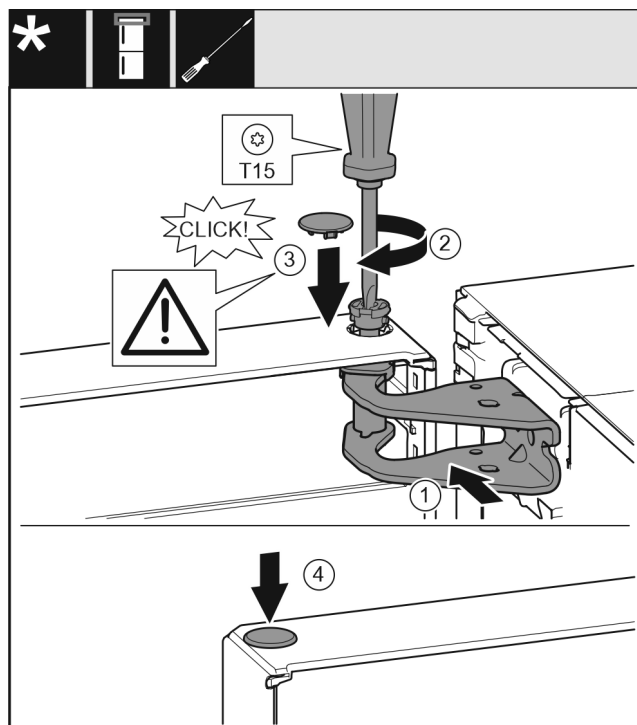

Fig. 19
- ▶ Align the top of the door with opening in the bearing bracket. Fig. 19 (1)
- ▶ Insert the bolt and tighten with a T15 screwdriver. Fig. 19 (2)
- ▶ Fit the protective cover to protect the door: Insert the protective cover and check that it lies flush on the door. If not, insert the bolt fully. Fig. 19 (3)
- ▶ Insert the plugs. Fig. 19 (4)